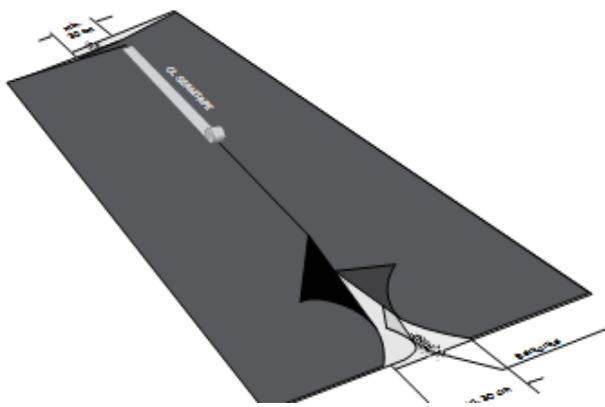

Fig. 10B: Longitudinal seams with Claymat CL seamtape
10. For applications where **Claymat CL or CTL** with a thick membrane has been specified **ABG** recommends welding the seams for a higher factor of safety against leakage. The minimum thickness of geomembrane which can be welded is 1.0 mm. GBR-Cs with weldable geomembranes have longitudinal and end-of-panel margins which are not glued allowing for simple seam execution. The seams should be executed as per **Figure 10B&11B** but with geomembrane welding instead of using tape.